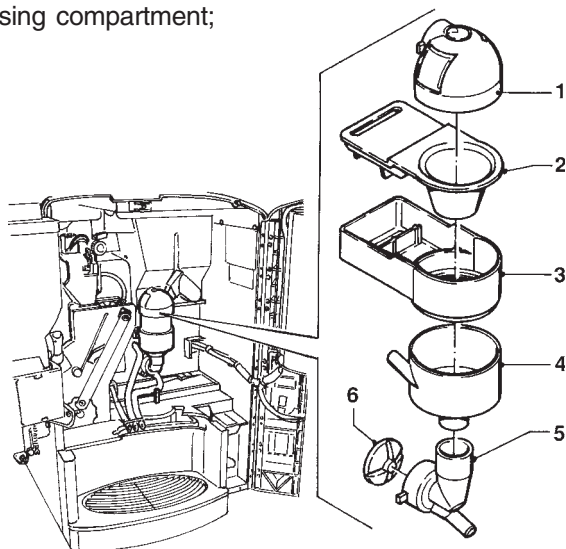

Fig. 4
- remove the powder and the water funnels, the feeders, the powder deposit drawers and the mixer wheels from the mixers (see Fig. 4);